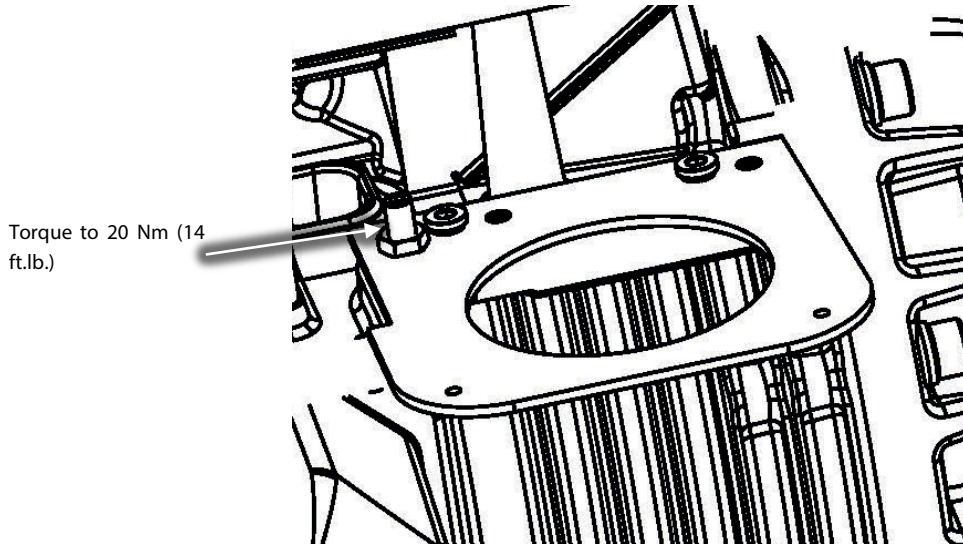

Figure 3 – Ground Location
- Disconnect the Soft Start ground wire by removing the nuts and mains input ground wire from the ground post on the compressor housing at 3 phase connection point. Refer to Figure 3 (Ground Location).